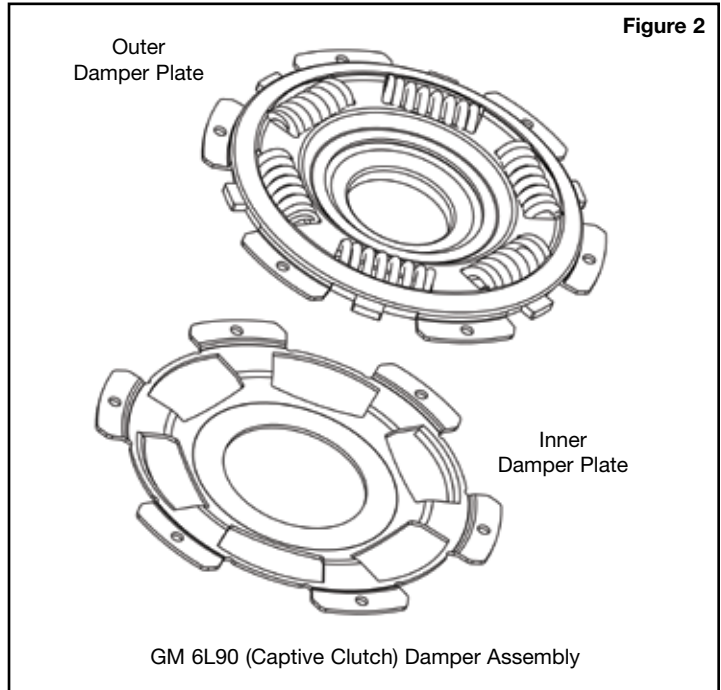

Figure 2
- b. Use a salvaged inner damper plate from a GM 6L80/6L90 300mm (JMBX) converter (**Figure 2**). At least four top tabs must be held down when riveting. To hold down the tabs for riveting, use four screws and nuts on opposing tabs and rivet the two remaining opposing tabs in between. Remove two opposing screws and rivet two of these tabs to the piston and repeat again for the last two tabs.